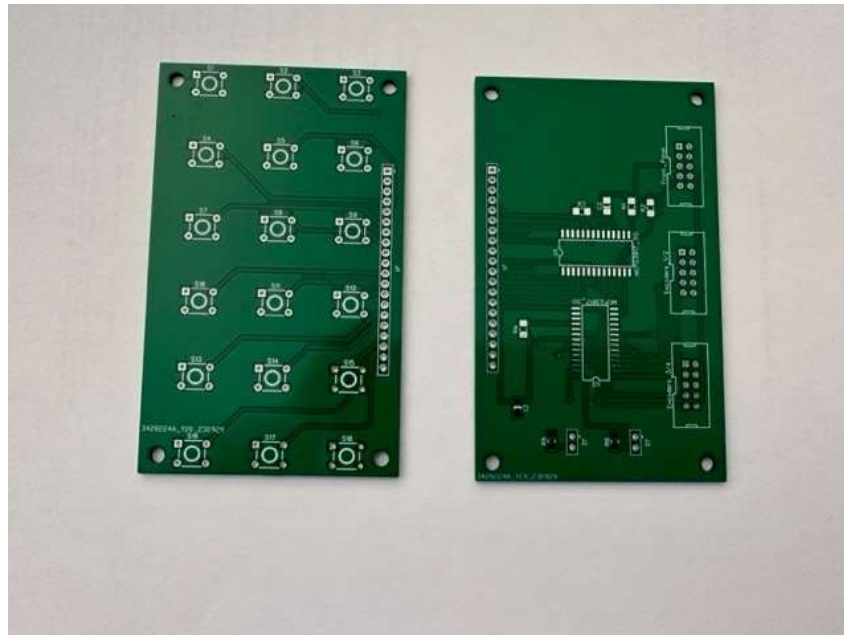

Figure 1. The Front Panel Board Set – Top Sides.
1. Solder on the sides of the boards shown in Figure 1. Printing is on the top sides of the boards.